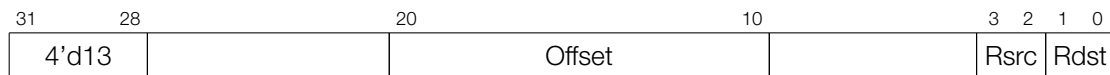

Figure 143: Instruction Type – LD
**Operand**    **Description** - see Figure 143